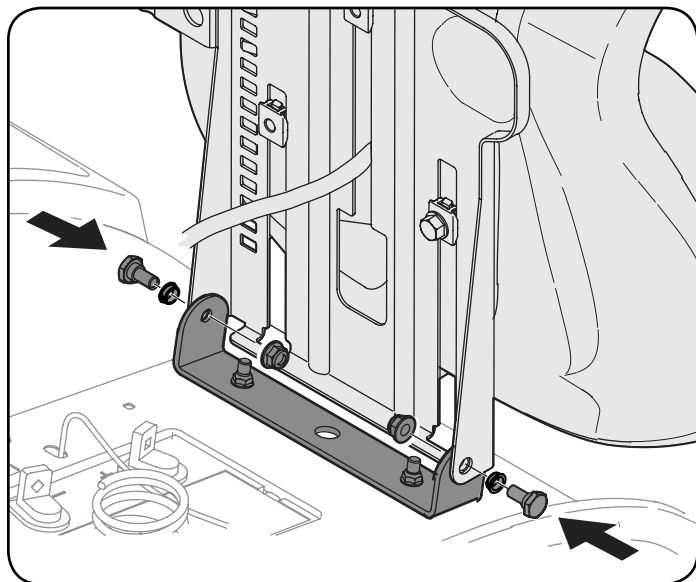

Figure 3
3. Rotate the seat into position and secure the seat into place with the previously removed shoulder screws and flange lock nuts. Be careful not to crimp or damage the wire harness while installing the seat. See "Figure 3".